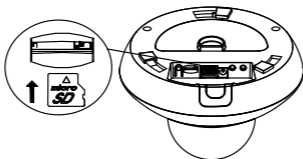

Figure 2-2 Insert the Memory Card
2. Insert the memory card into the memory card slot as shown in Figure 2-2.